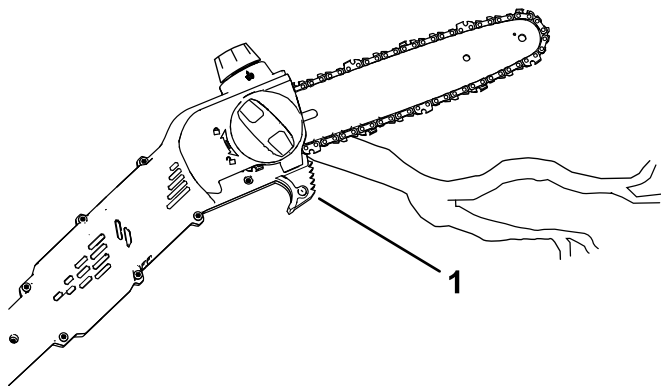

Figure 13
5. Cut with the branch near the rear of the guide bar, close to the cutting guide; press the saw chain lightly against the wood and allow the weight of the pole saw to drive the cutting (Figure 13).